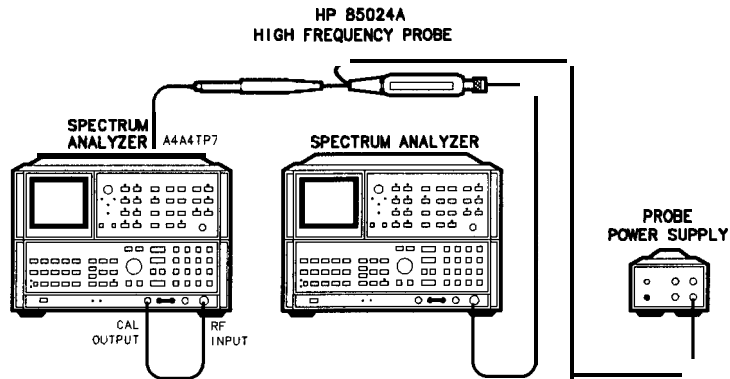

Figure 3-50. Down/Up Converter Adjustments Setup
1. Position the spectrum analyzer upright as shown in Figure 3-50 and remove the IF-Display Section top cover.
8. Connect the active probe to the probe power supply and the RF INPUT of the second spectrum analyzer, as shown in Figure 3-50. On the second spectrum analyzer, key in **2-22 GHz**,